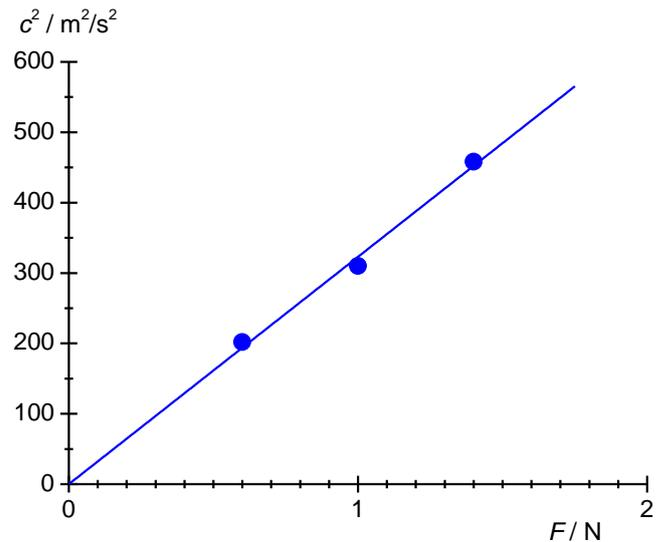

Fig. 8: Square of wave propagation speed c^2 for waves on a rope as a function of F .
- Calculate the squares of the speeds of propagation of the waves c^2 and enter them into Table 4. Plot these values against the force of tension F and fit a straight line to the points (Fig. 8).
- Use equation (8) to obtain the mass per unit length of the rope μ from the gradient by forming the inverse.